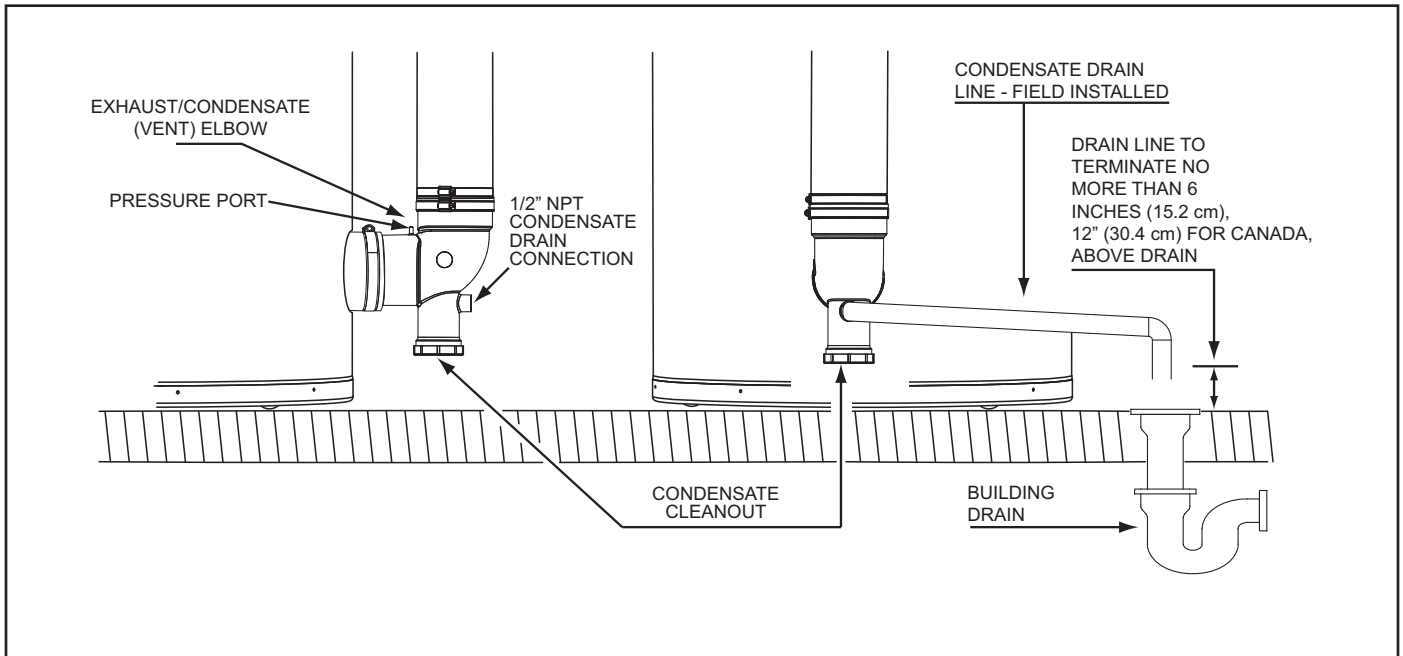

Figure 49. Condensate Drain Installation
2. Install a 1/2 inch PVC condensate drain line between the condensate drain connection on the Exhaust/Condensate Elbow and a suitable building drain. The exhaust elbow has a "built in" condensate trap. Do not install an additional trap in the condensate drain piping, Figure 49.
3. Terminate the condensate drain piping with an elbow above the drain. Ensure that any discharge will exit the condensate drain line no more than 6 inches (15.2 cm) above a suitable building drain, or external to the building, see Figure 49.
4. Ensure the condensate drain line is not elevated above the condensate drain connection on the exhaust/condensate elbow, see Figure 49.